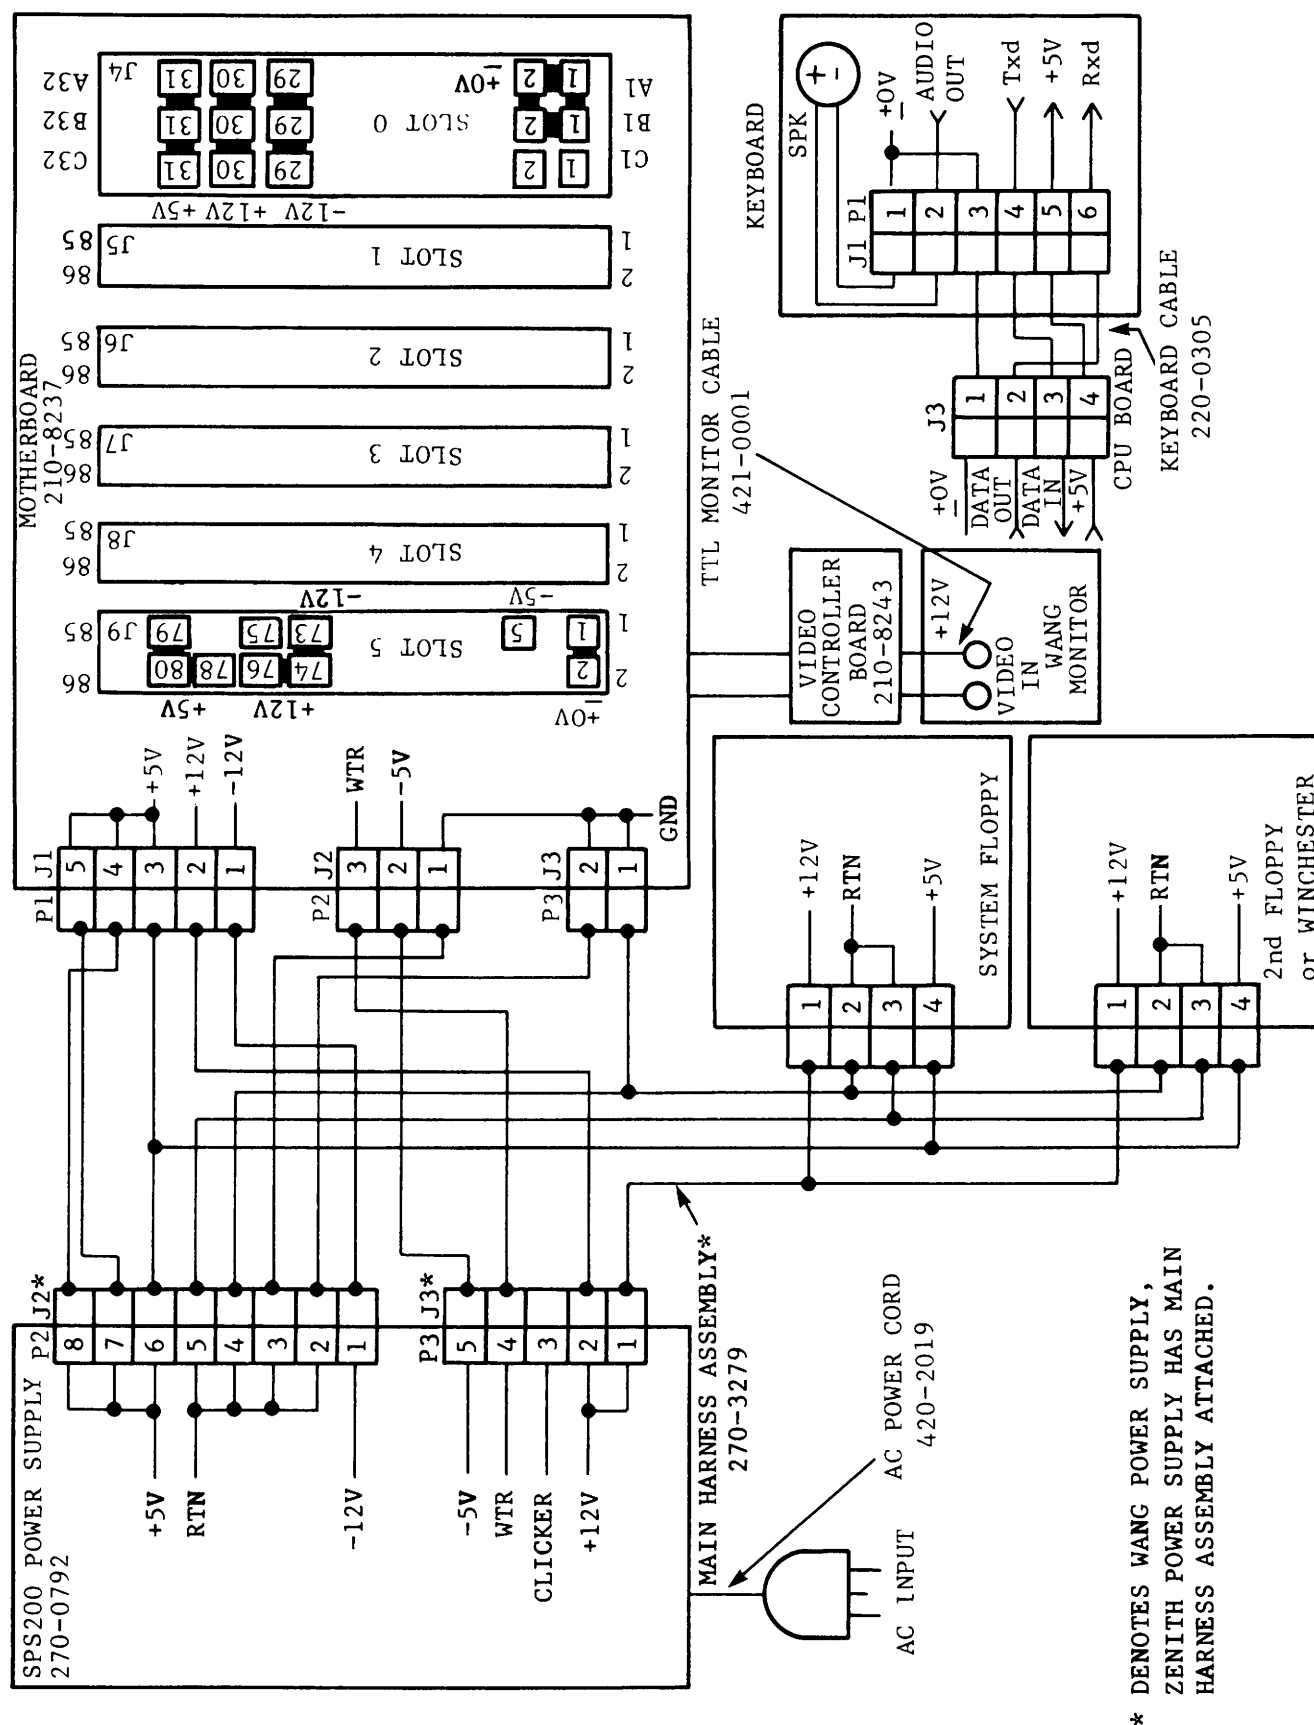

Figure 5-1. Power Distribution and Interconnection Diagram
Locate the motherboard located near the Switching Power supply. Using a digital voltmeter measure the following voltages. See Figure 5-1 for power distribution and connector locations.
- () Reconnect the ac power cord, the keyboard cable, and the monitor cable to the system unit and Power-On the unit. Using the multimeter, measure the Floppy Drive voltage levels at the Motherboard connector P1 as follows: See Figure 5-1 for P1 location.